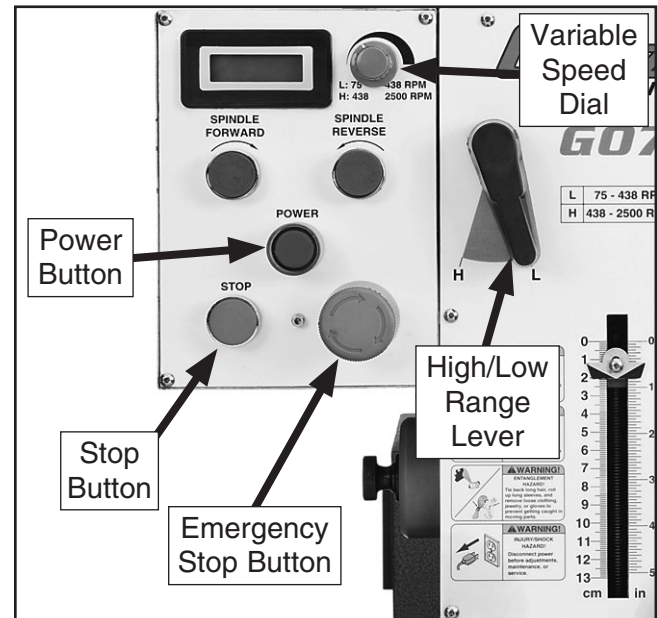

Figure 18. Control panel and spindle speed controls.
2. Press **EMERGENCY STOP** button (see **Figure 18**). This helps prevent unexpected startup when machine is connected to power.